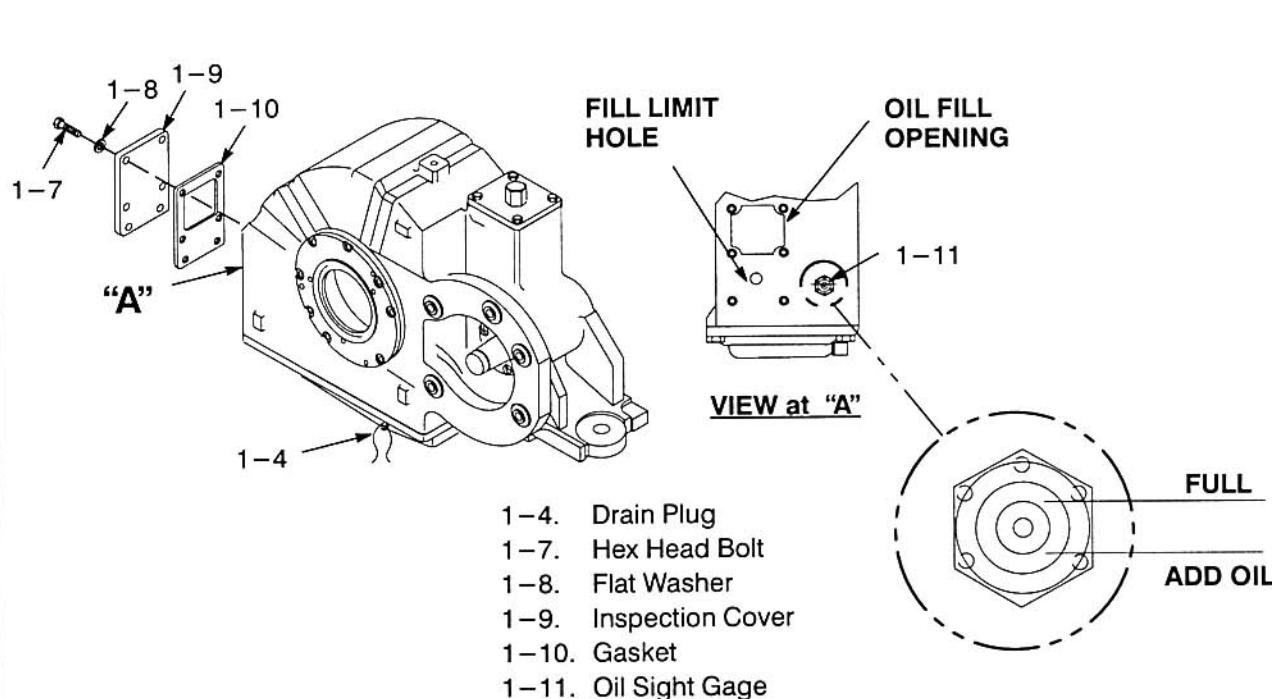

Figure 7-87 Service Gear Unit Oil
- a. Drain gear case oil by removing oil drain plug (4, Figure 7-87) from gear unit. If metal particles are found in waste oil, report to Supervision.
- b. Apply Permatex No. 14 and re-install oil drain plug. Use lockwire (6) to secure.